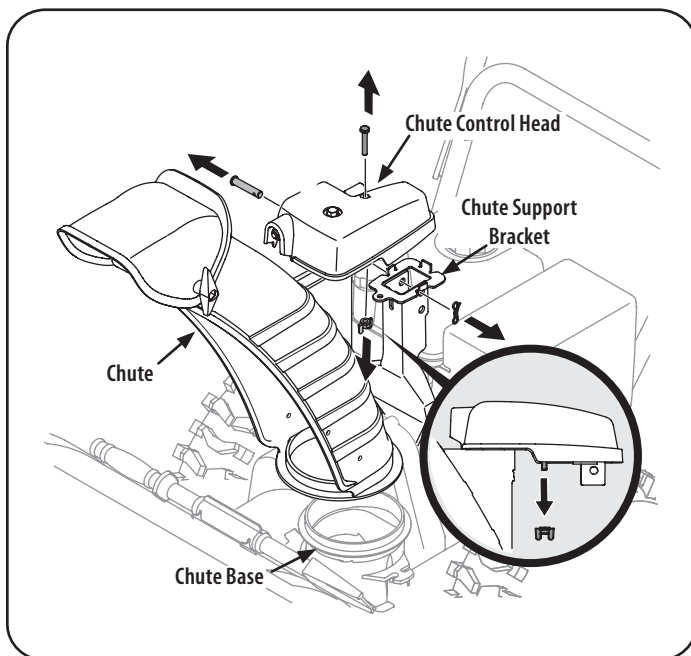

Figure 4
1. Remove wing nut and hex screw from chute control head and clevis pin and cotter pin from chute support bracket. Position chute (forward-facing) over chute base. See Figure 4.